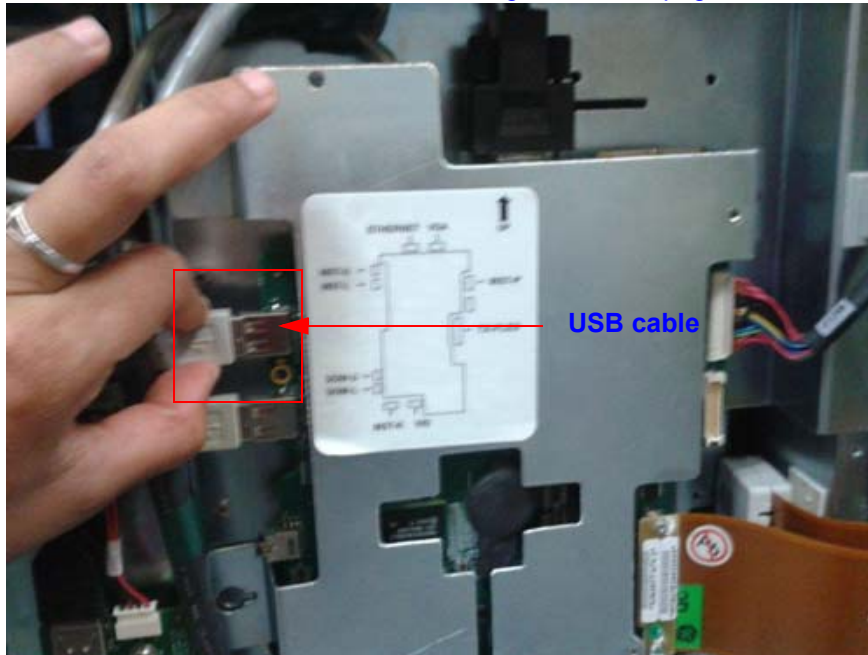

Figure 8-42 Removing USB cable of MST board
- 3) Remove USB cable from MST board Refer Figure 8-42 on page 8-42